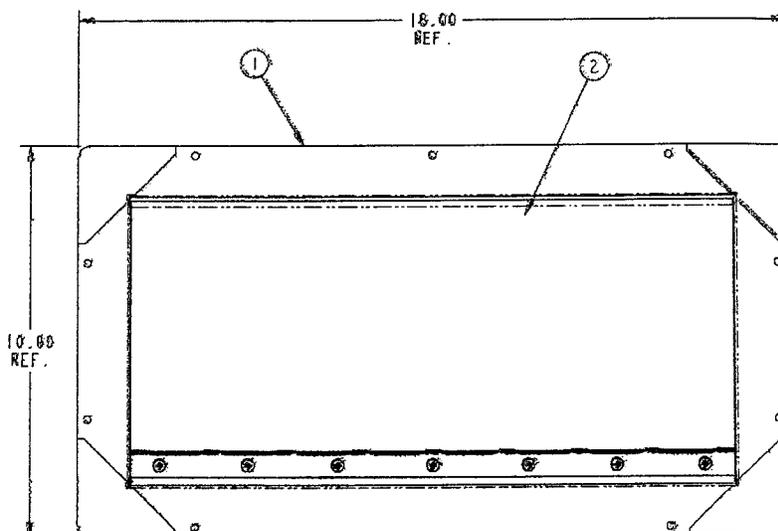
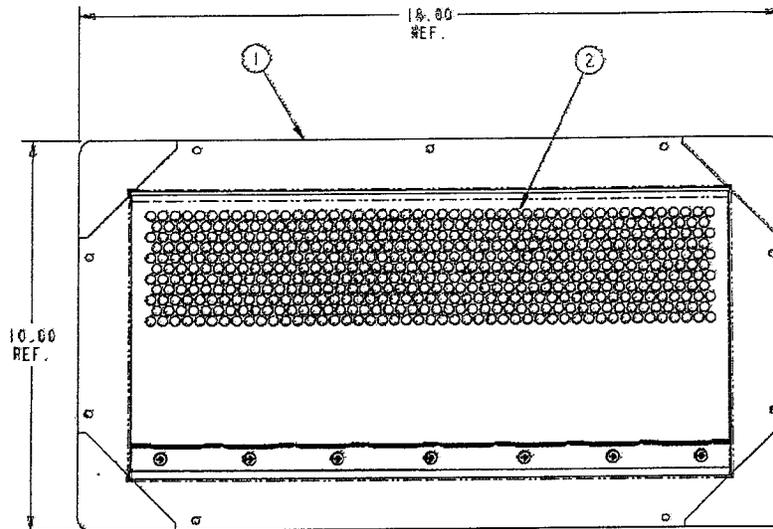
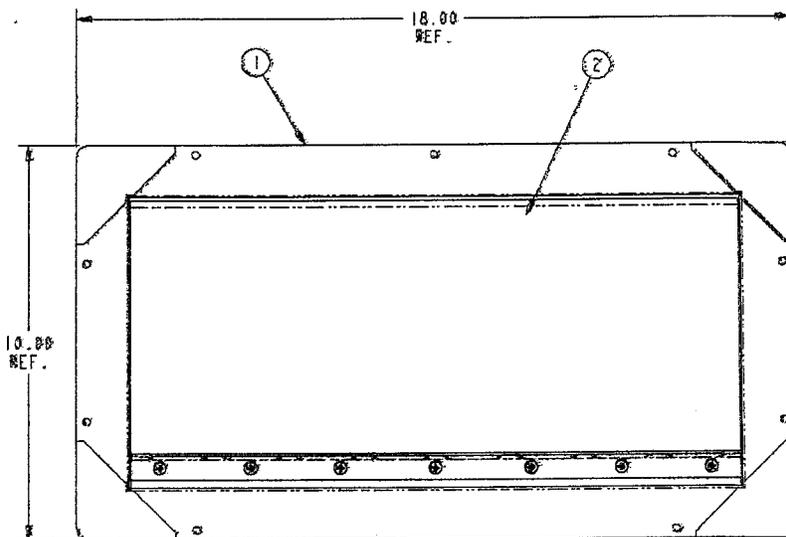

FIGURE 1 – FOSS Flood Vent
FIGURE 2 – FASS Flood Vent
FIGURE 3 – FOAL Flood Vent
3.3. Model Sizes: Models FOSS, a stainless steel flood vent with no ventilation, measures 18 inches wide by 10 inches high (See Figure 1). Model FASS, a stainless steel flood vent with ventilation, measures 18 inches wide by 10 inches high (See Figure 2). Model FOAL, an aluminum flood vent with no ventilation, measures 18 inches wide by 10 inches high (See Figure 3). Model FAAL, an aluminum flood vent with ventilation, measures 18 inches wide by 10 inch high (See Figure 4). Model ROAL, an aluminum flood vent used for retrofitting with no ventilation, measures 16.37 inches wide by 10 inches high (See Figure 5).